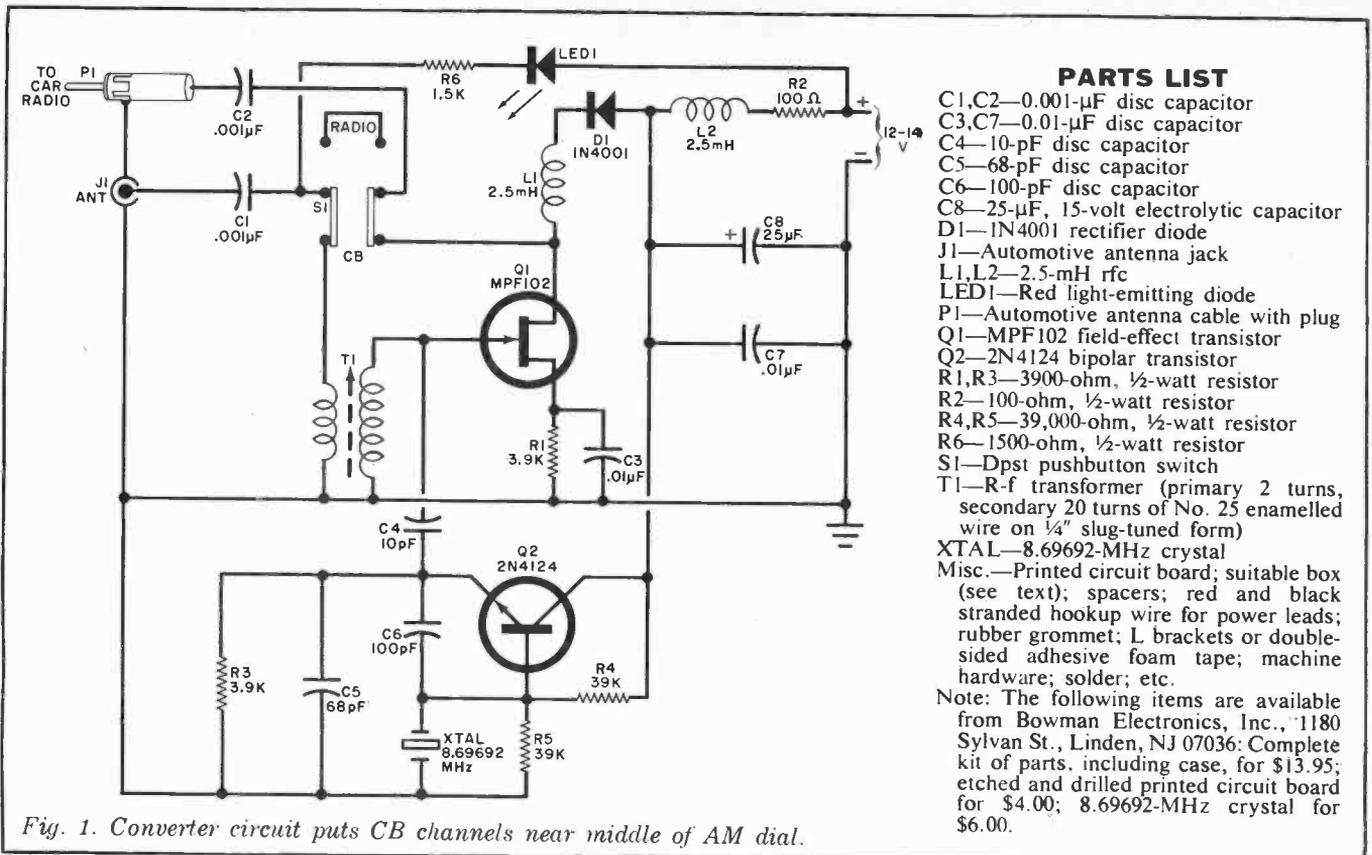

Fig. 1. Converter circuit puts CB channels near middle of AM dial.
**How It Works.** The schematic diagram of the converter is shown in Fig. 1. The converter, installed between the antenna and the radio's r-f input, serves as an added "front-end" for the radio. The antenna plugs into *J1*, while *P1*, located at the end of a length of coaxial cable (the same type used in car radio antenna installations), plugs directly into the antenna jack of the car radio.